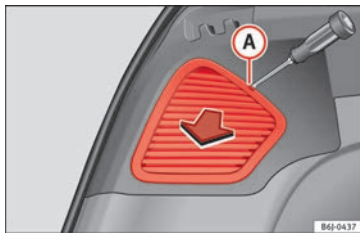

Fig. 111 Lights on the side.
- Remove the lid with a flat screwdriver, placing it in notch **(A)** **»» Fig. 111**.